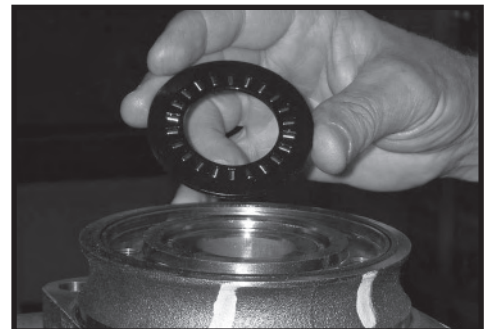

Figure 18
- 13. Remove thrust bearing (11) from top of coupling shaft (12) if Torqmotor is a Series TF, TG, TH or TL. Inspect for wear, brinelling, corrosion and a full complement of retained rollers. SEE FIGURE 18.